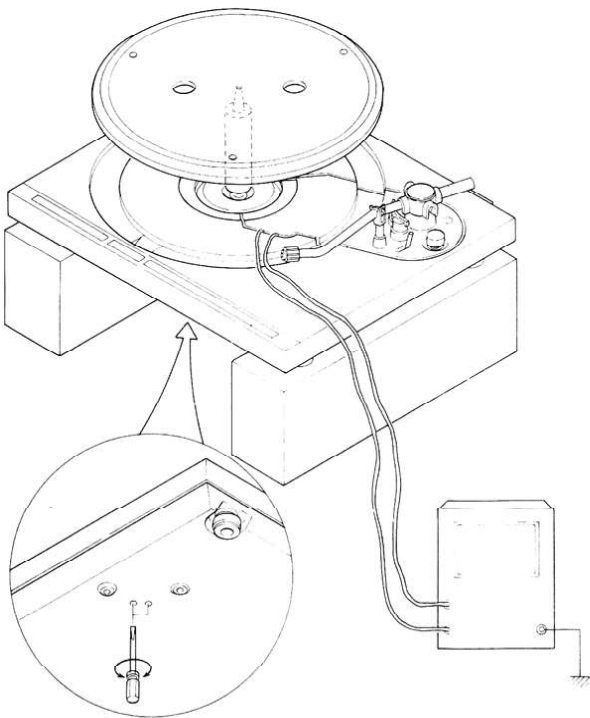

Fig. 9-3
4. This adjustment is performed from the direction of the turntable base plate as shown in Fig. 9-3.